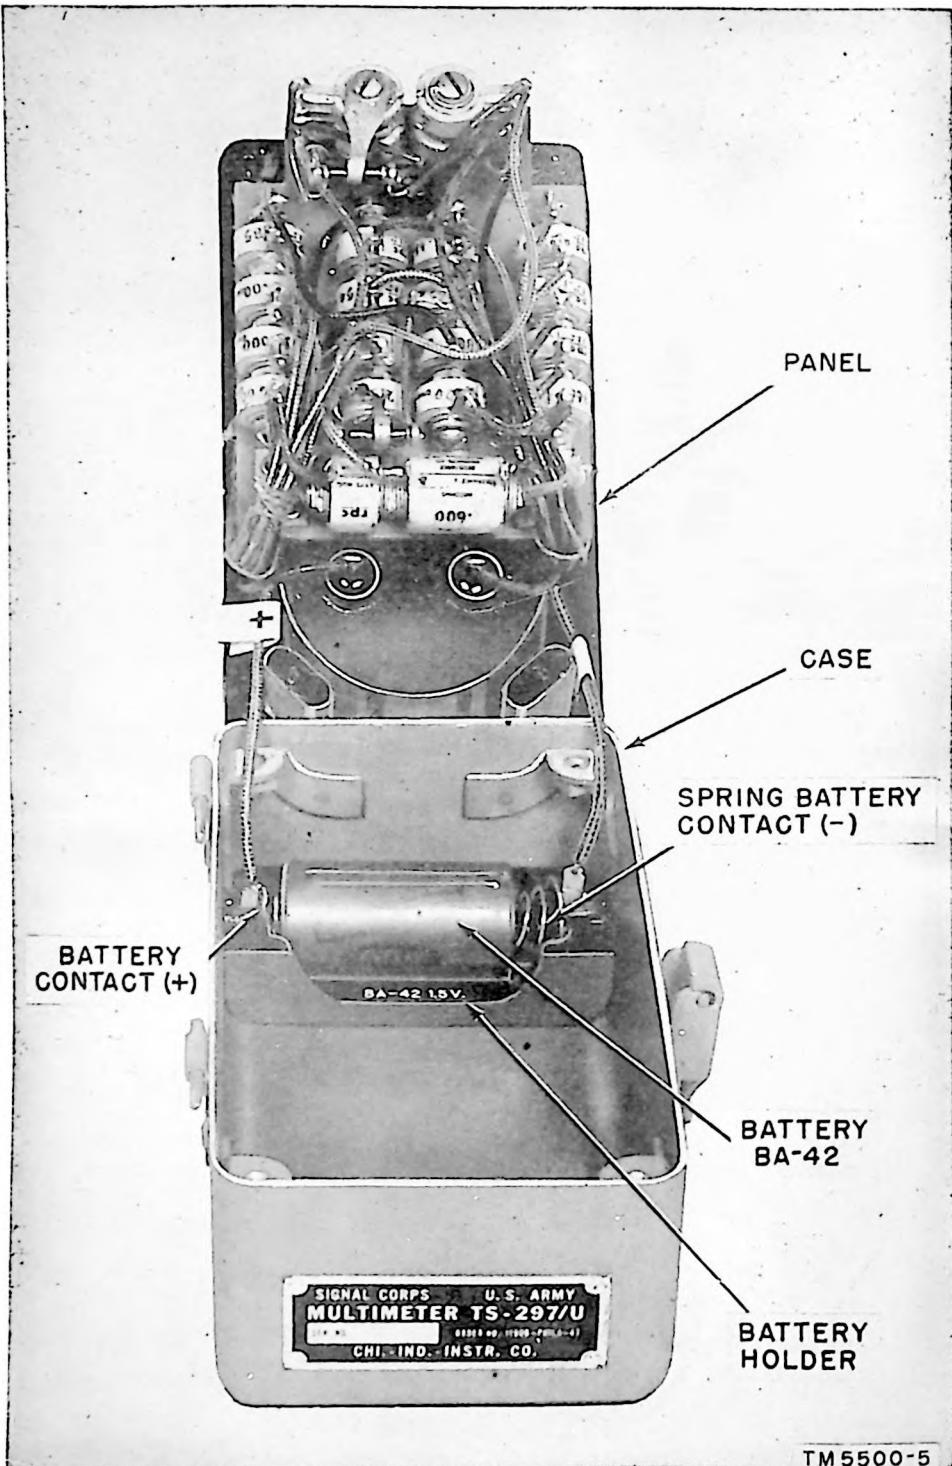

Figure 5. Multimeter, panel raised for installation of battery.
(2) *Case.* The case is aluminum and has a removable hinged lid fastened by a latch. A battery holder is located inside at one end of the bottom of the case (fig. 5). Brackets are provided at the corners for mounting the panel.
## **7. Installation (fig. 5)**